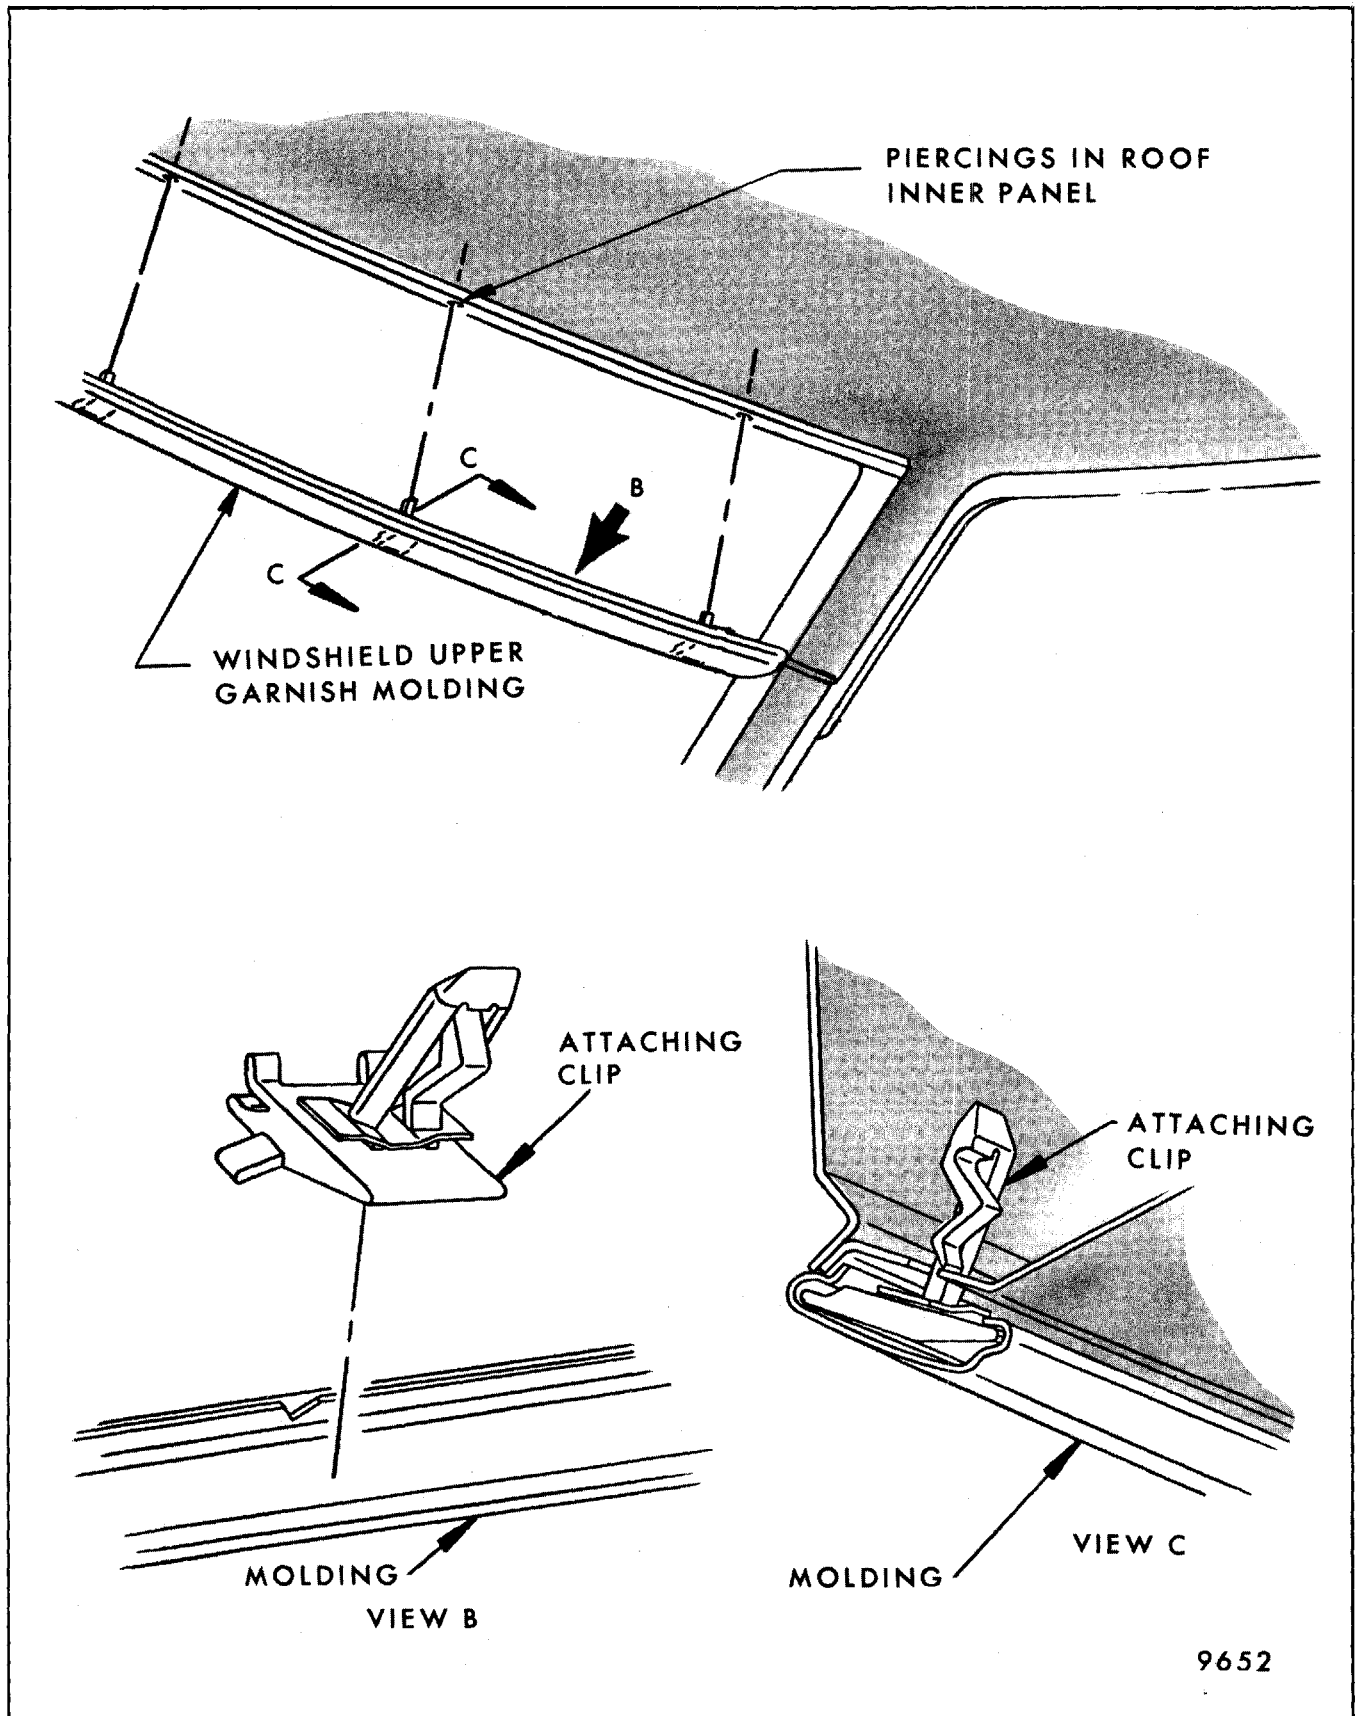

Fig. 8-17-Windshield Upper Garnish Molding - A Styles
3. Insert tool J-2772 or equivalent between headlining and back of metal clip and pry clip forward to disengage clip and molding from roof inner panel (Fig. 8-17). On A,B,C styles, carefully force clip loose from header by inserting a flat-bladed tool between the headlining and molding and deflect retaining wings of clip.